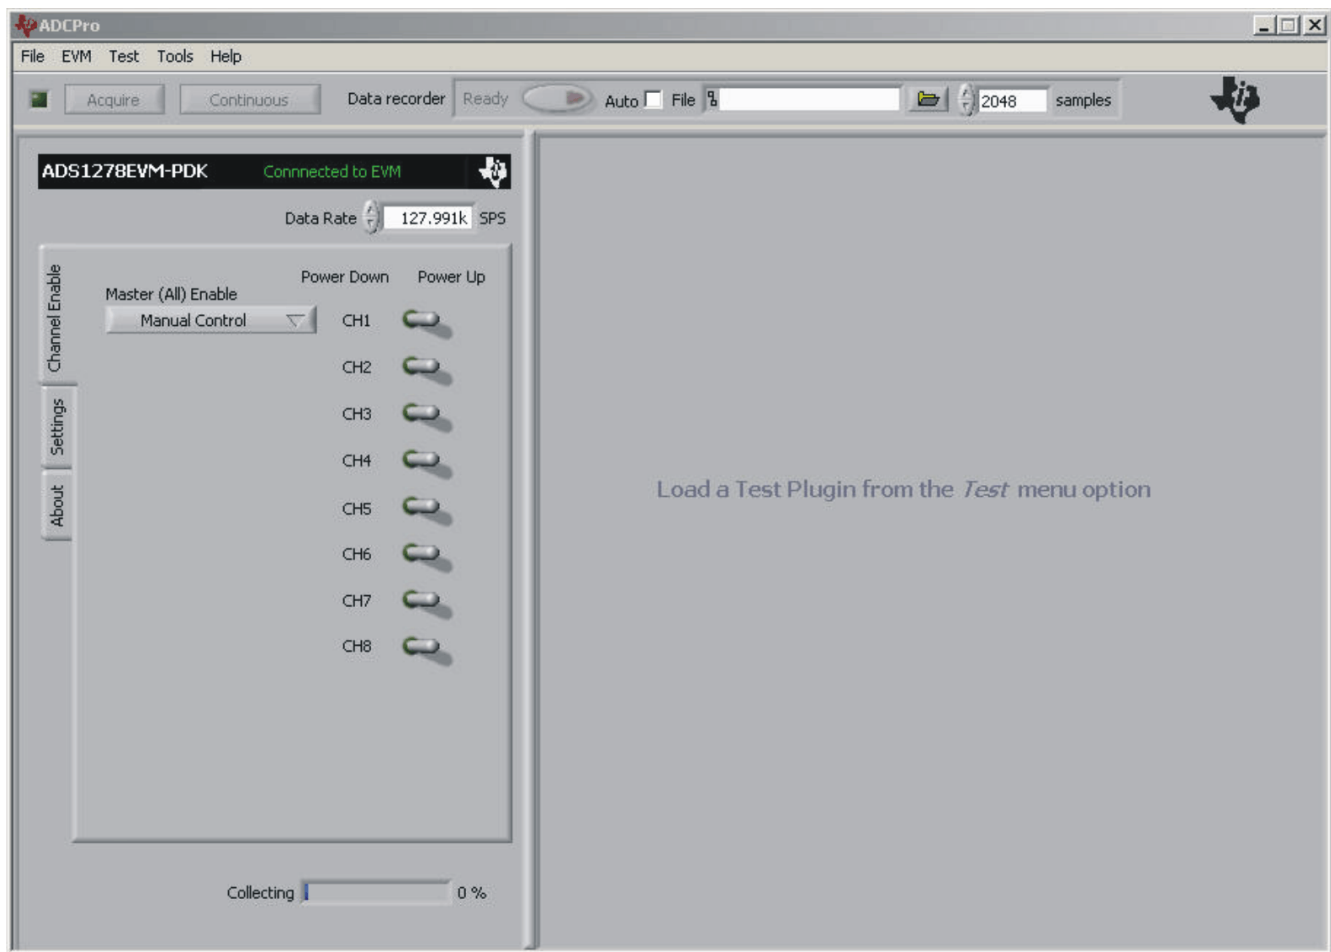

Figure 18. ADS1278EVM-PDK Plug-In Display Window
2. Select *ADS1278EVM* from the EVM drop-down menu. The ADS1278EVM-PDK plug-in appears in the left pane, as shown in Figure 18.
The ADS1278EVM-PDK plug-in for ADCPro provides complete control over all settings of the ADS1278. It consists of a tabbed interface (see Figure 18), with different functions available on different tabs. These controls are described in this section.